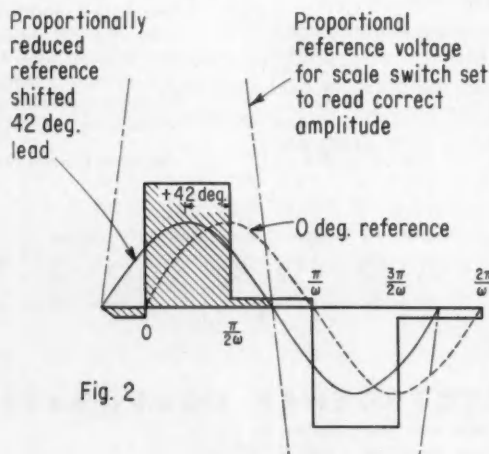

Fig. 2
2. Notice that the coincident area between the reference sinusoid and the input wave is maximized where the reference is shifted for about 42 deg lead, see Figure 2.